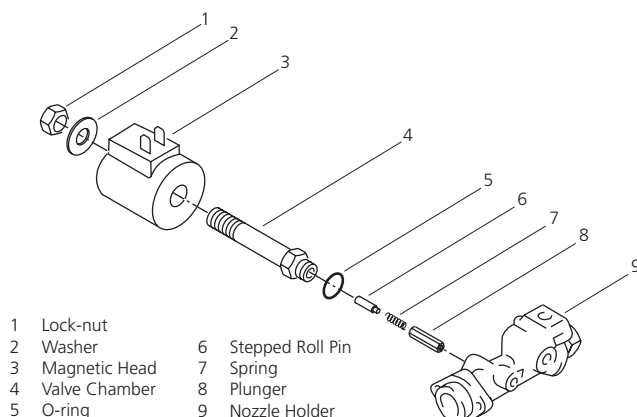

Figure 39: Fuel Valve and Solenoid Assembly
6. Unscrew the lock-nut (item 1, Fig. 39) securing the solenoid to the valve chamber (4) and slide magnetic head (3) back.
7. Unscrew valve chamber (4) from nozzle holder (9).
1. Unscrew lock-nut (item 1, Fig. 39) from new valve assembly.
2. Make sure new O-ring seal (5) is in place on valve chamber (4) and items 6, 7 and 8 are present and correctly oriented inside the valve chamber.
4. Slide the magnetic head (3) into place making sure the boss registers in the end plate recess.
5. Secure with the lock-nut (1) and washer (2).